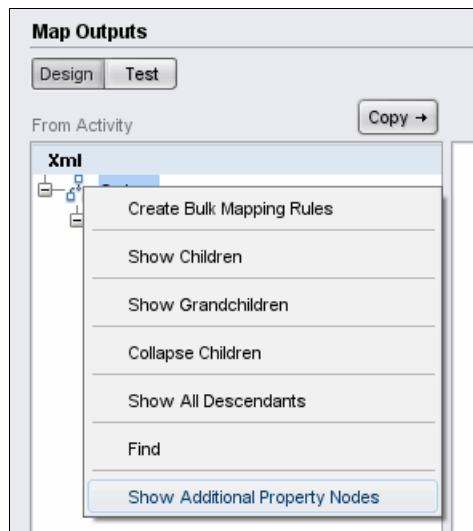

Figure 12-47 Enabling detailed view
8. Right-click anywhere inside the From Activity panel, and select **Show Additional Property Nodes**, as shown in Figure 12-47: